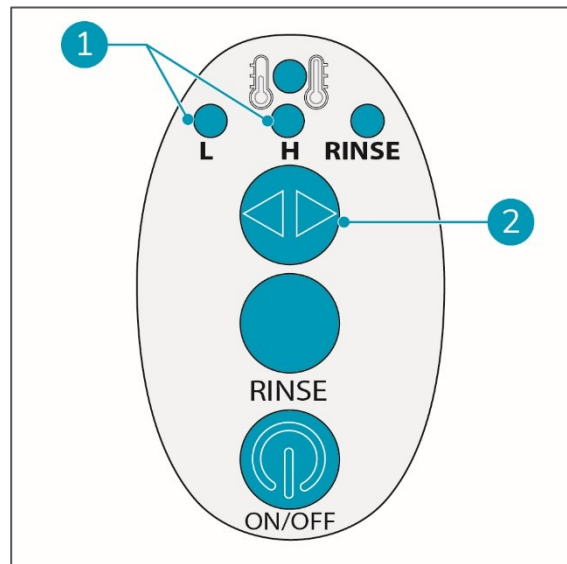

Figure 15
1. Press pump Low/High selector button (fig 15, pos 2).
2. Check pump speed indicator (fig 15, pos 1).